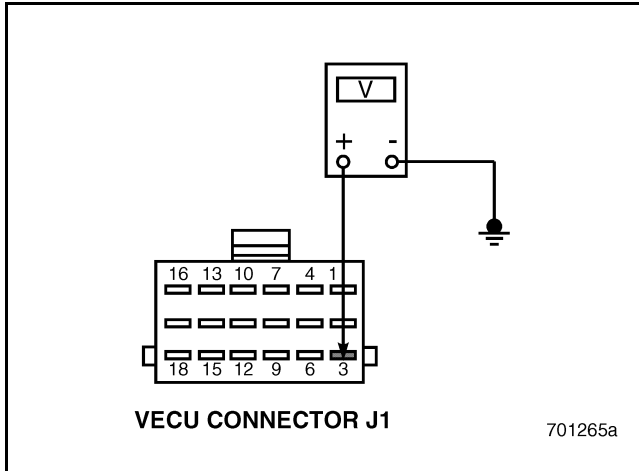

Figure 514
5. Measure the voltage between VECU connector J1 pin 3 and a good ground (see Figure 514).